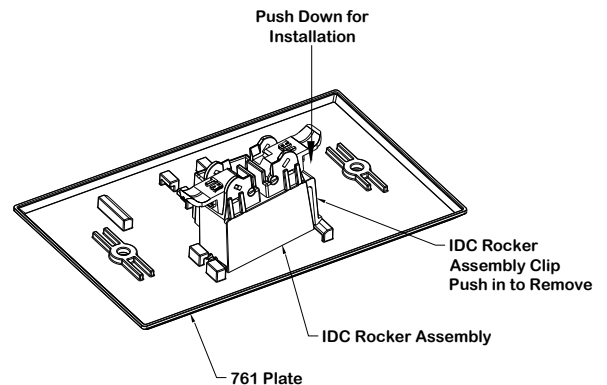

Figure 6
2. To remove, push in the clip located on the IDC Rocker Assembly. Lift up and slide the out the assembly from the 761 wall plate. (See Figure 6).
4. To install, slide in the IDC Rocker Assembly (wire side first) into the slots on the 761 wall plate. (Be sure not to pinch the wires when installing). Then push down on the clip side of the assembly and snap it into the slot on the 761 wall plate. (See Figure 6).